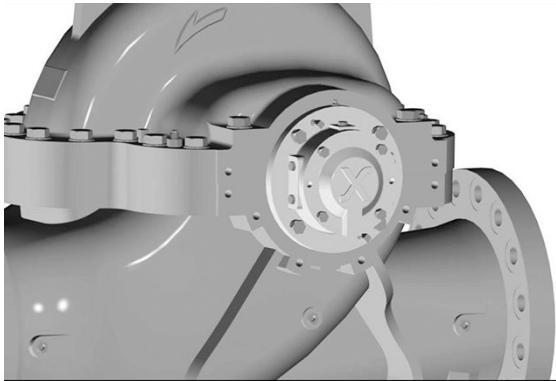

Figure 43: Bearing gland installed on outboard (opposite of coupling) side of pump
16. Slide the bearing cap onto the bearing body and alternately tighten the bearing gland capscrews so as not to "cock" the bearing gland. If not done properly, this will cause the bearing to bind. (see Figure 43)